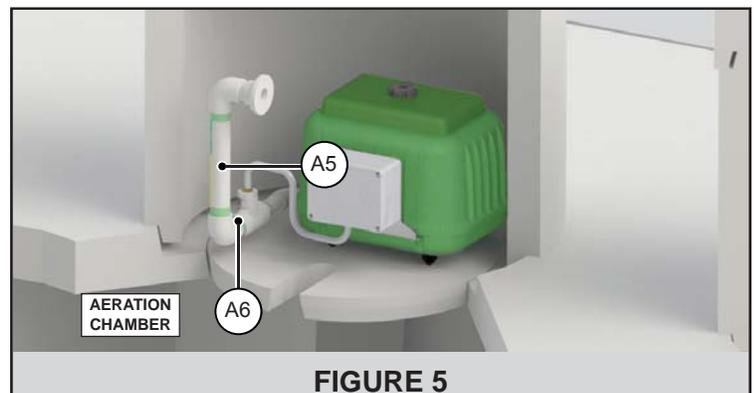

FIGURE 5
5. Remove air pump and components from carton. If the air pump will be installed in the aeration chamber riser, solvent weld subassembly A5 to subassembly A6 as shown in Figure 5. Insure yellow arrows are aligned. Install concrete support base for air pump.